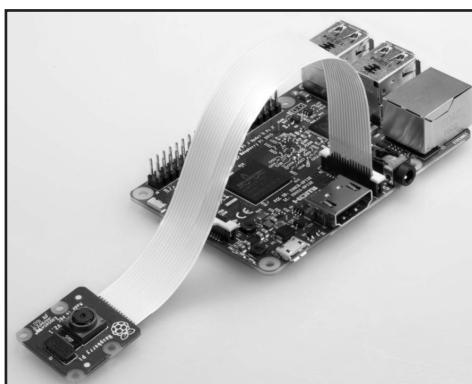

Fig. 4.8 : Interfacing camera module to Raspberry Pi
- Camera can be installed on Raspberry Pi by inserting the cable into the Raspberry Pi camera port. The camera cable slot is in between the USB and micro-HDMI port on Raspberry Pi board as shown in below Fig. 4.8.